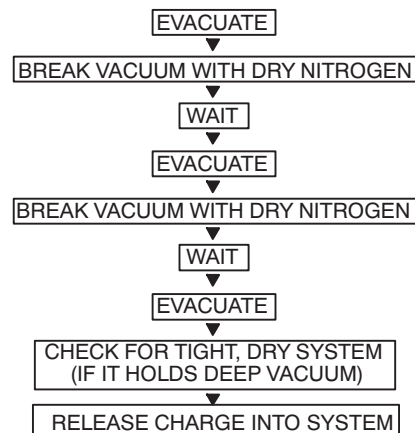

Fig. 11 —Triple Evacuation Method
Refer to Fig. 11 and proceed as follows:
5. Repeat this procedure as indicated in Fig. 11. Afterwards the system will be free of any contaminants and water vapor.